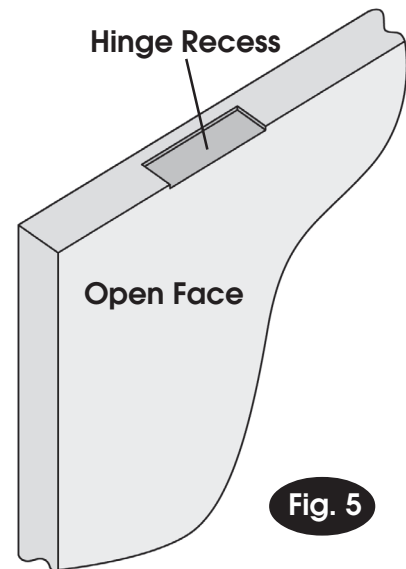

Fig. 5
2. Place the top plate on the edge of the door so that the clamping block is set against the open face of the door. **Note: The open face of the door is the side where the hinge is fitted, (see fig. 5).**